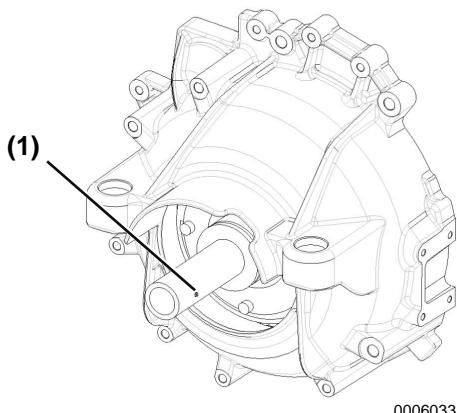

Figure 2
Apply approximately 8 to 10 pumps of grease to the engine coupler grease fitting (**Figure 2, (1)**) to lubricate the engine coupler splines through the grease fittings, if equipped. Use a typical hand-operated grease gun to apply the grease.